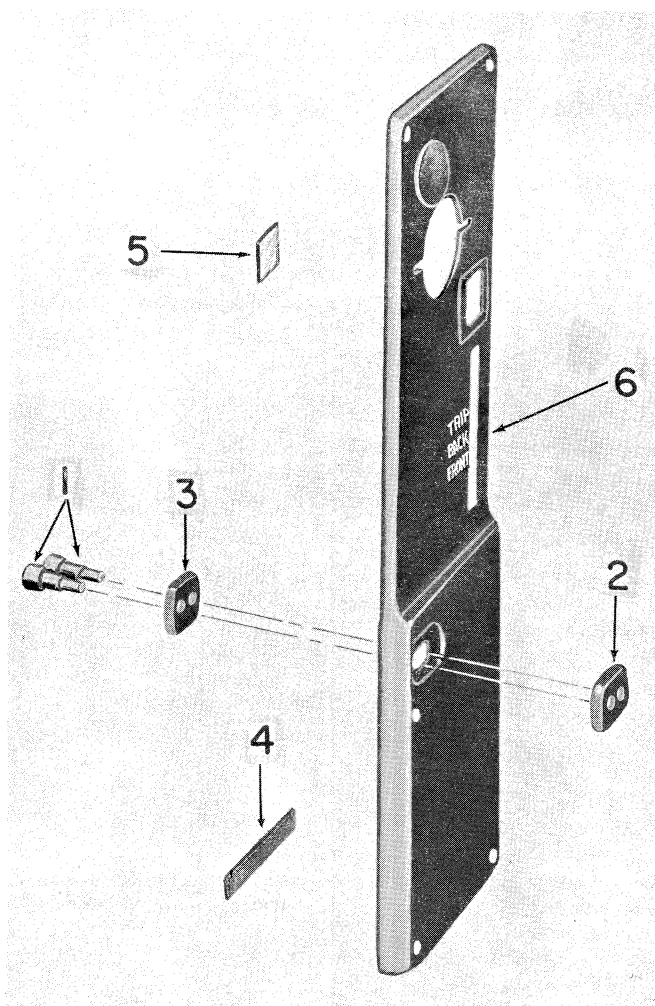
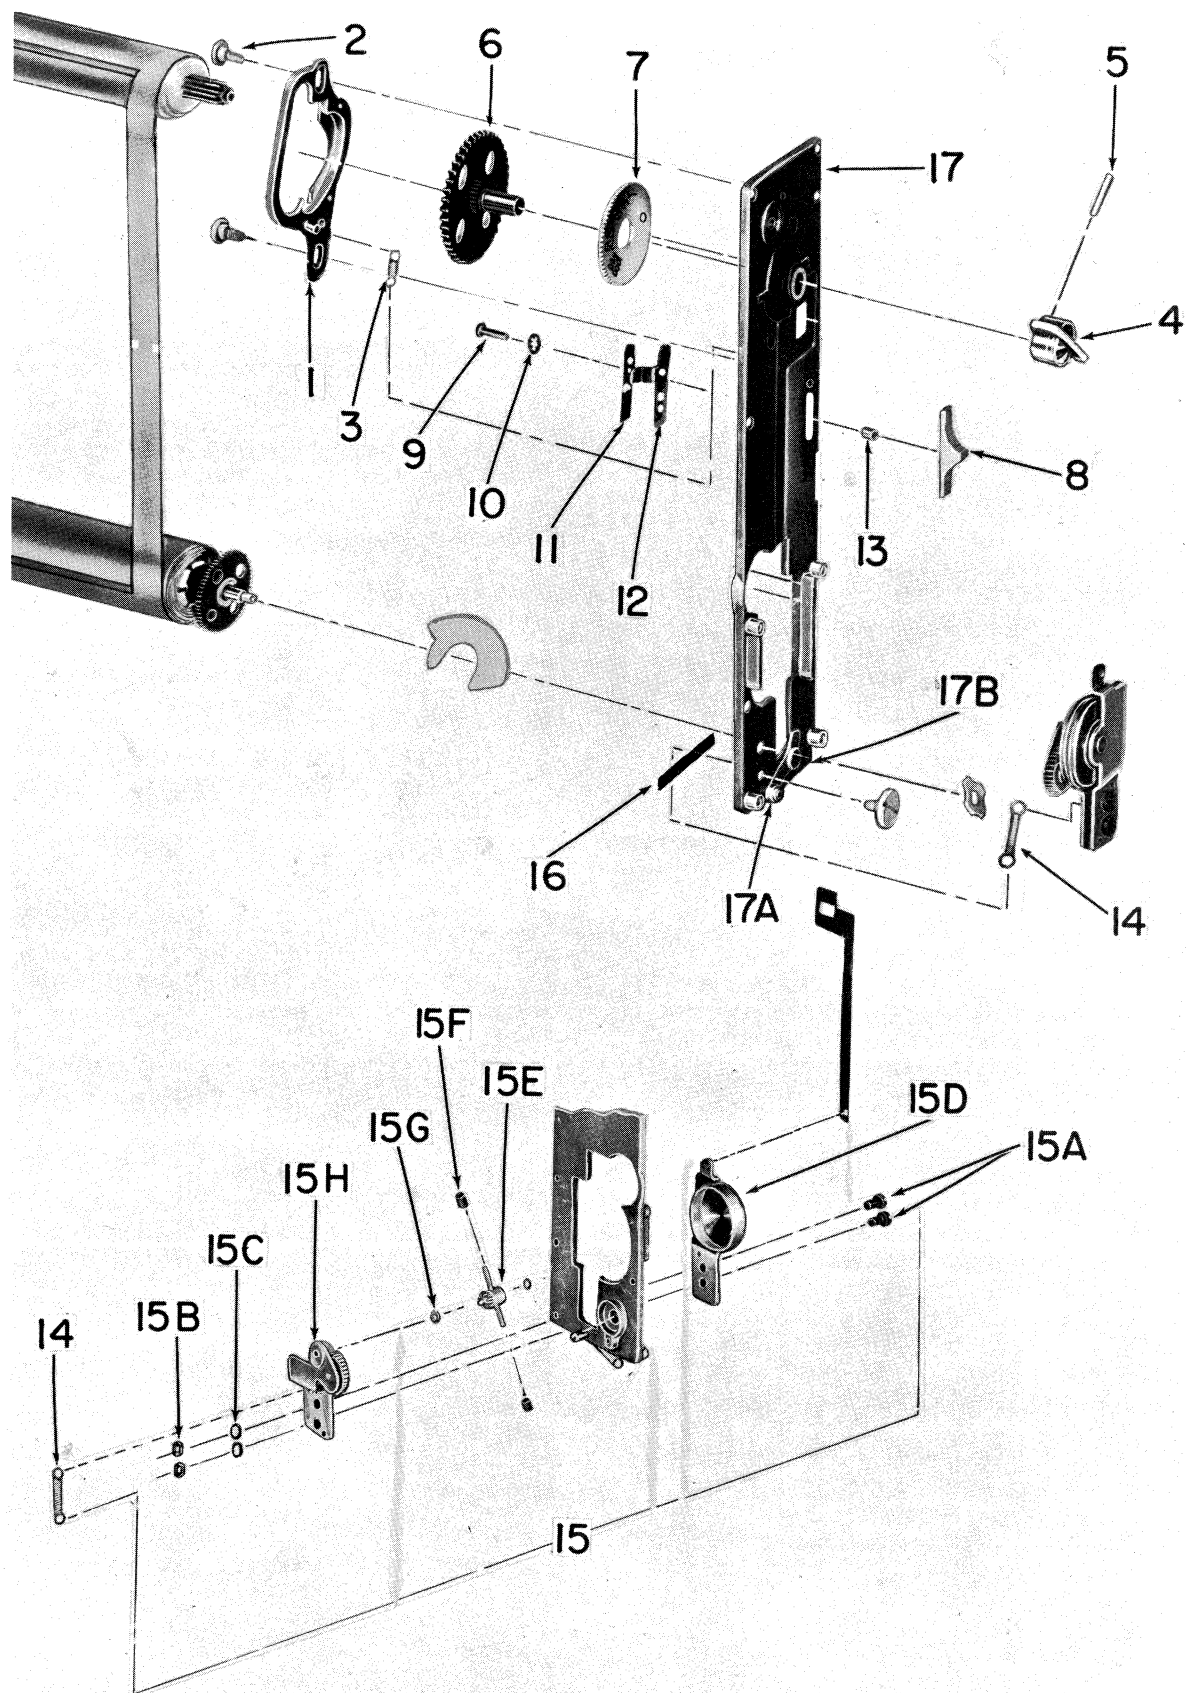

Figure 5. Shutter Plate Cover Assembly,
Figure 6. Shutter Mechanism Plate Assembly, Exploded View
tension shaft retainer (6). Swing the retard cam lever assembly (17A, figure 6) forward to raise the governor. Remove four wood screws (8, figure 2) and lift the shutter mechanism plate assembly (4) from the camera.
- (1) Escapement, Master Gear, Winding Key. The escapement (1, figure 6) is secured by two escapement screws (2). Remove and unhook the escapement spring (3). Remove the taper pin (5), the winding key assembly (4) and then the master gear assembly (6) from the inside. Lift the shutter dial (7) from the inside.
- (2) Shift Slide (8). To remove, unscrew the machine screw (9) and lock washer (10). Lift off the shift slide spring (11) and the shift side plate (12) and the shift slide spacer (13).
(a) Tear out the tension roller seal (10), cemented around the lower tension roller gear. (This seal is no longer considered necessary and can be discarded since light seals (4, figure 5) and (16, figure 6) are sufficient protection.)
(4, figure 5) to remove dust and grit that may have collected.
Clean all parts of the shutter plate (figure 6) with solvent, trichlorethylene (AN-T-37a). Dry all parts thoroughly before reassembly. Check the springs (3 and 14); replace if stretched or deformed. Inspect the gears for worn teeth and loose stop pins.
4. Contacts. Check the height of the receptacle contact (27, figure 12) and the receptacle jumper (28). Both of these must be arched above the wood surface at least 3/16 inch so that they will make positive contact with the receptacle contact studs (1, figure 5). Check the curvature of the spring finger contact (13, figure 2); these contacts should be arched evenly not more than 5/32 inch above the block. If the short and long switch contacts (30 and 31, figure 12) are causing an electrical short, remove the body release plate assembly (34), paragraph VII. A. and replace the contacts.
If the governor assembly (15, figure 6) has been dismantled, lubricate by wiping the outside ends of the governor shoes (15F) and governor pinion assembly (15E) with graphite powder, AN-G-24. The governor shoes must slide freely on the cross shaft of the pinion assembly. Reassemble the governor as follows:
(c) Rotate the winding key until "0" appears squarely in the upper half of the speed shutter dial window (5, figure 5) when the upper master gear pin is stopped against the top step of the escapement (1, figure 6).
(d) With the bottom strut of the curtain 1/4 inch from the upper inside edge of the frame, position the shutter mechanism plate assembly (4, figure 2) over the pinion ends of the curtain rollers (9). The escapement actuating lever of the concealed body release plate must contact the bottom stud of the escapement assembly (6, figure 6) and the shutter selector shift side; the shutter selector lever of the concealed body release (located near the middle) must contact the bottom shift plate side (12, figure 6). The gear of the top roller meshes with the master gear assembly (6).